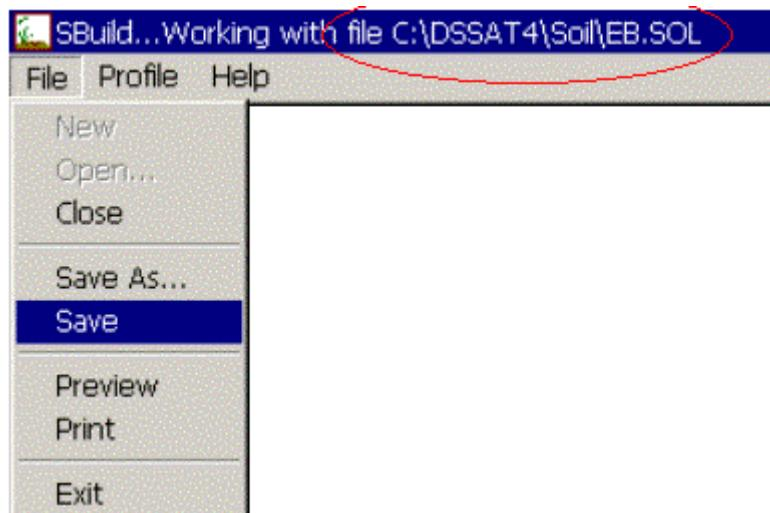

Figure 4. The file "C:\DSSAT4\SOIL\EB.SOL" will be saved if **File/Save** is selected.
- **Save:** Saves the opened file. The file will be saved with the name indicated on the upper panel (Fig.4).